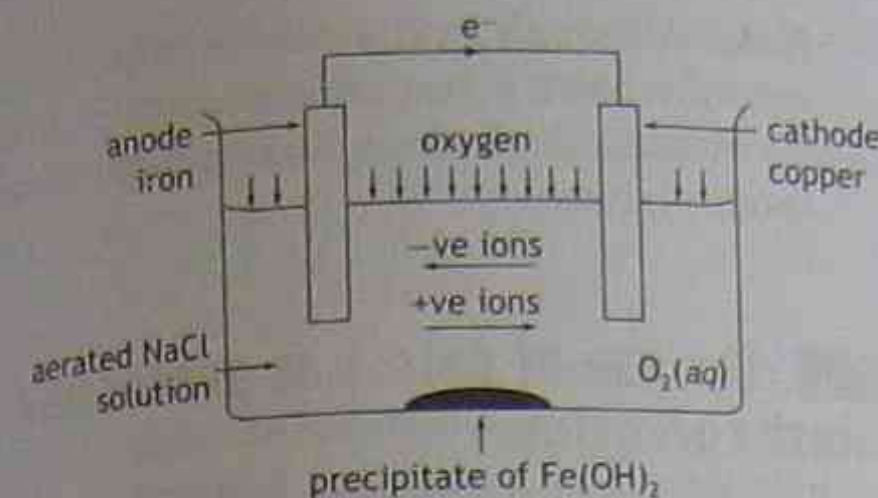

Figure 5.14 Galvanic cell
If iron and copper electrodes are placed in an aerated NaCl solution, as shown in Figure 5.14, the more reactive iron corrodes to iron (II) ions.